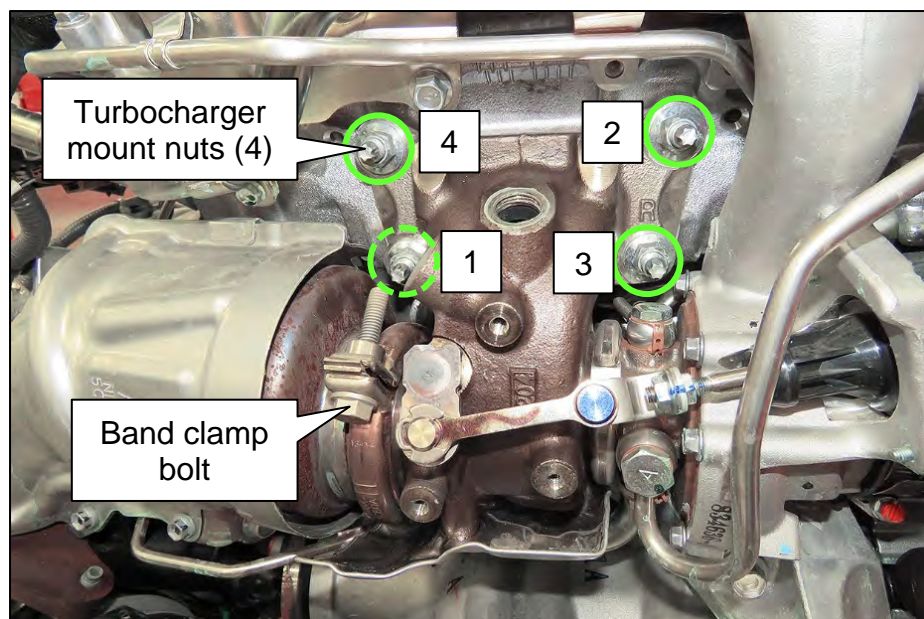

Figure 51
76. Loosen the turbocharger assembly mounting nuts in order, from 1 to 4, as shown in Figure 51.